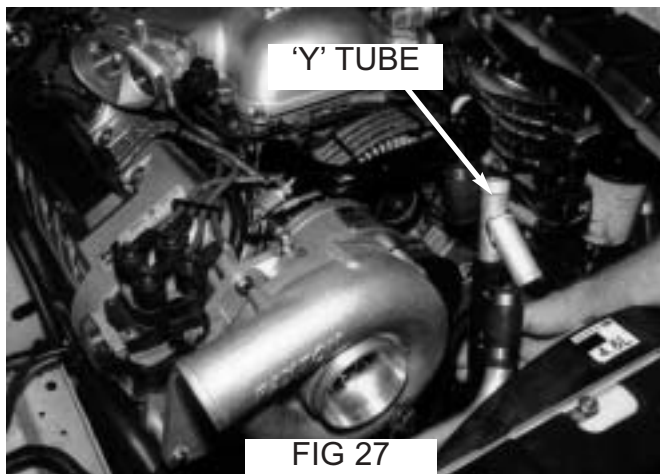

FIG 27
19. Install the straight portion of the Y tube into the lower radiator hose, and orient the angled portion towards the passenger side of the car. (Fig 27) Install the supplied upper radiator hose and attach to the angled portion of the Y tube. Install the upper portion of the Y tube into the CTM. (Fig 28)